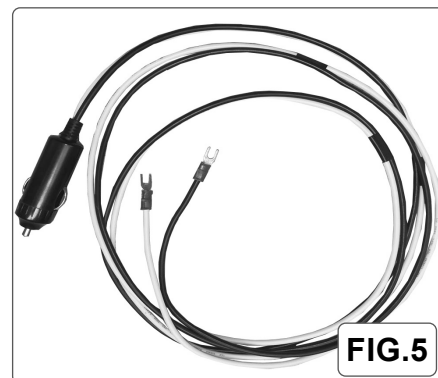

FIG.5
- Note the distinction between + - poles before connecting the wires from the 12V power cord (fig.5).